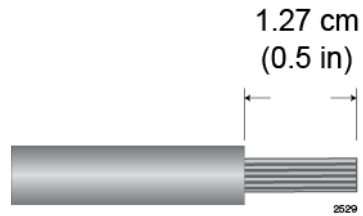

Figure 116. Stripping the Power Wires
1. Prepare adequate lengths of two stranded 8 AWG power wires by stripping them as shown in Figure 116 on page 179.